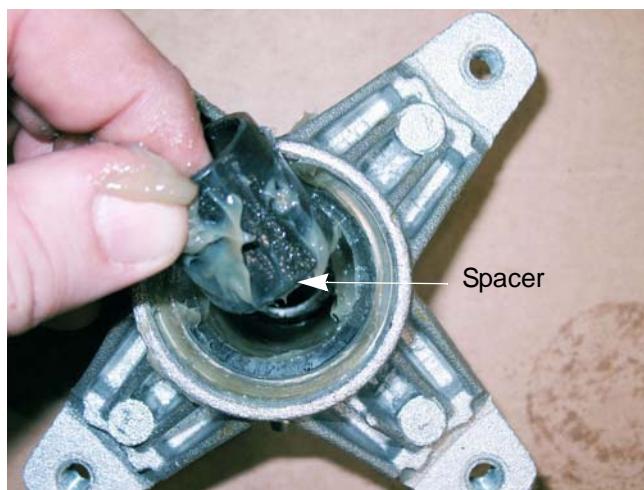

Figure 8.18
5. Remove the spacer. See Figure 8.18.